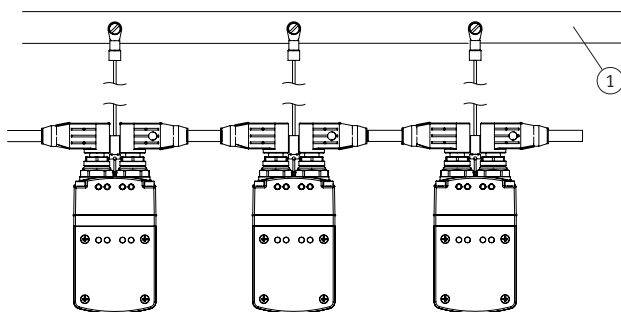

Fig. 8: Ground bar
actuators we recommend that you connect grounding to a PE rail (1) (Fig. 8).